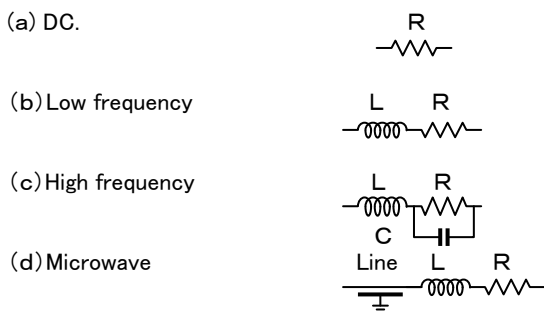

Figure 6. Equivalent circuit of resistor.
As shown in Fig. 6, at the commercial frequency (50 Hz/60 Hz), commonly used resistors can be expressed only by  $R$ , a real number of impedance. However, in accordance with increase in frequency, resistors must be expressed by a RLC typed lumped parameter equivalent circuit and for 1 GHz or over by the combination between a RLC lumped parameter equivalent circuit and an equivalent distributed constant circuit such as a transmission circuit as shown in Fig. 6.
It is almost impossible to measure the value of capacitance  $C$  of the equivalent lumped parameter circuit (C) in Fig. 6 for
small resistors such as one with a chip of 5 mm or shorter in length or Nikkohm's rectangular flat metal film resistors. The expression of "almost impossible" is used for a value equivalent to 0.1 pF or less. Since  $L$  of a small chip resistor is about 1 nH, the RLC type equivalent circuit of (c) in Fig. 6 is seldom taken into consideration.